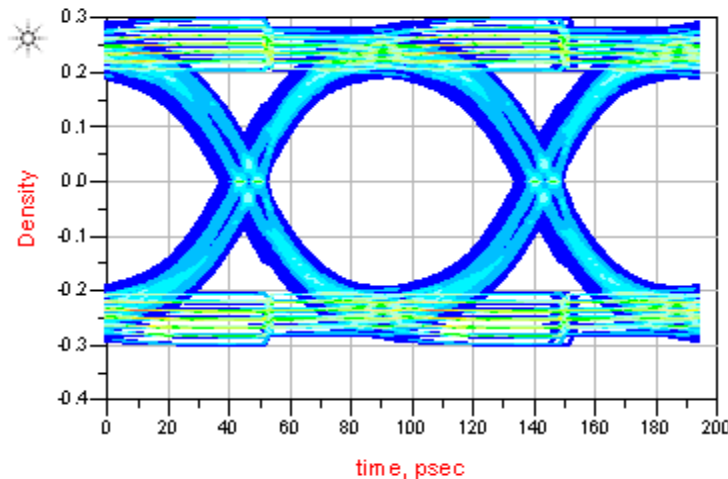

Figure 4: Eye plot for ASIC TX to DS1xxDF111 RX link
8. The eye plot will appear in the plot window, as shown in Figure 4. Note that this is a plot of the eye as it appears after the DS1xxDF111's CTLE and DFE equalization but before the retiming function, TX de-emphasis, and VOD. This plot will be equivalent to the input to the decision slicer. It is also possible to simulate and plot the output of the decision slicer (by setting RX_Config=0), however doing this will not give you visibility into the receiver's eye opening margin.